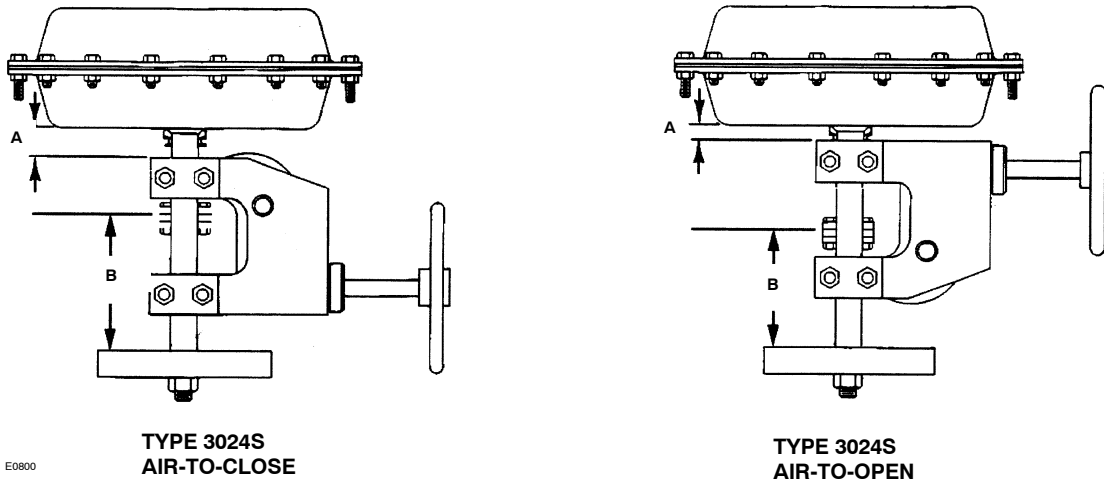

Figure 4. Type 3024S Actuator Handwheel Mounting (GA 1.21 and 1.31 Only).
A side-mounted handwheel assembly (figure 4) is usually used as a manual operator. When mounted on an ATC type 3024S actuator, turning the handwheel clockwise always closes the valve. When mounted on an ATO actuator, turning the handwheel clockwise always opens the valve, A lever (key 49, figure 12) on the handwheel assembly opens or closes the valve by moving the valve stem.
1. Assemble the operating nut (key 50), the two levers (key 49), and the spacer (key 53) using the cap screw (key 59) and hex nut (key 60).
2. Install the bushings (key 55) in the body (key 48).
3. Attach the levers (key 49) to the body (key 48) using the pivot pin (key 52) and the retaining ring (key 56).
4. Apply lubricant Lubriplate MAG-1 or equivalent to the drive screw assembly (key 51) and screw it on to the operating nut (key 50).
5. Install the retaining ring (key 58) to secure the collar to the body (key 48).
6. If the handwheel assembly was removed from the actuator leg posts, position the U-bolts (key 61), back plate (key 64) and handwheel body (key 48) to the actuator leg posts as shown in figures 3 & 12. Tighten the hex nuts (key 62) to 19 N•m (14 lbf•ft). Clearance between the lower diaphragm casing and the handwheel body are shown in figure 4. With the actuator fully open the distance between the lower face of the actuator stem connector and the actuator flange should be shown in figure 4.